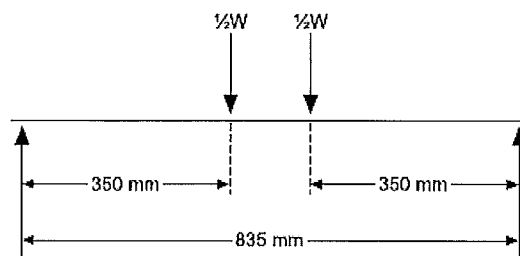

Figure 3 – Beam set-up and schematic
- 3) Adjust the load to 100N positioned 350 mm from each support as shown in Figure 3.